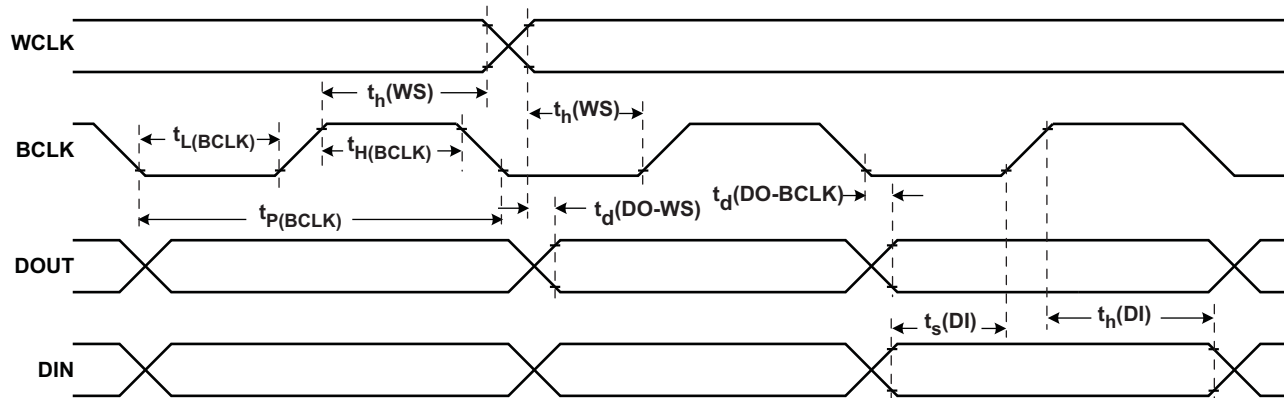

Figure 3-2. I²S/LJF/RJF Timing in Slave Mode
3.6.3 TYPICAL TIMING CHARACTERISTICS (see Figure 3-2)